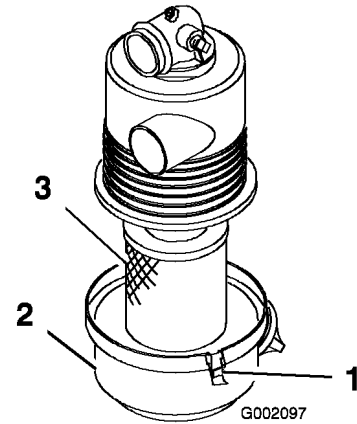

Figure 33
- Gently slide the filter out of the air cleaner body to reduce the amount of dust dislodged (Figure 33). Avoid knocking the filter against the air cleaner body.
- Release the latches securing the air cleaner cover to the air cleaner body. Separate the cover from the body. Clean the inside of the air cleaner cover (Figure 33).